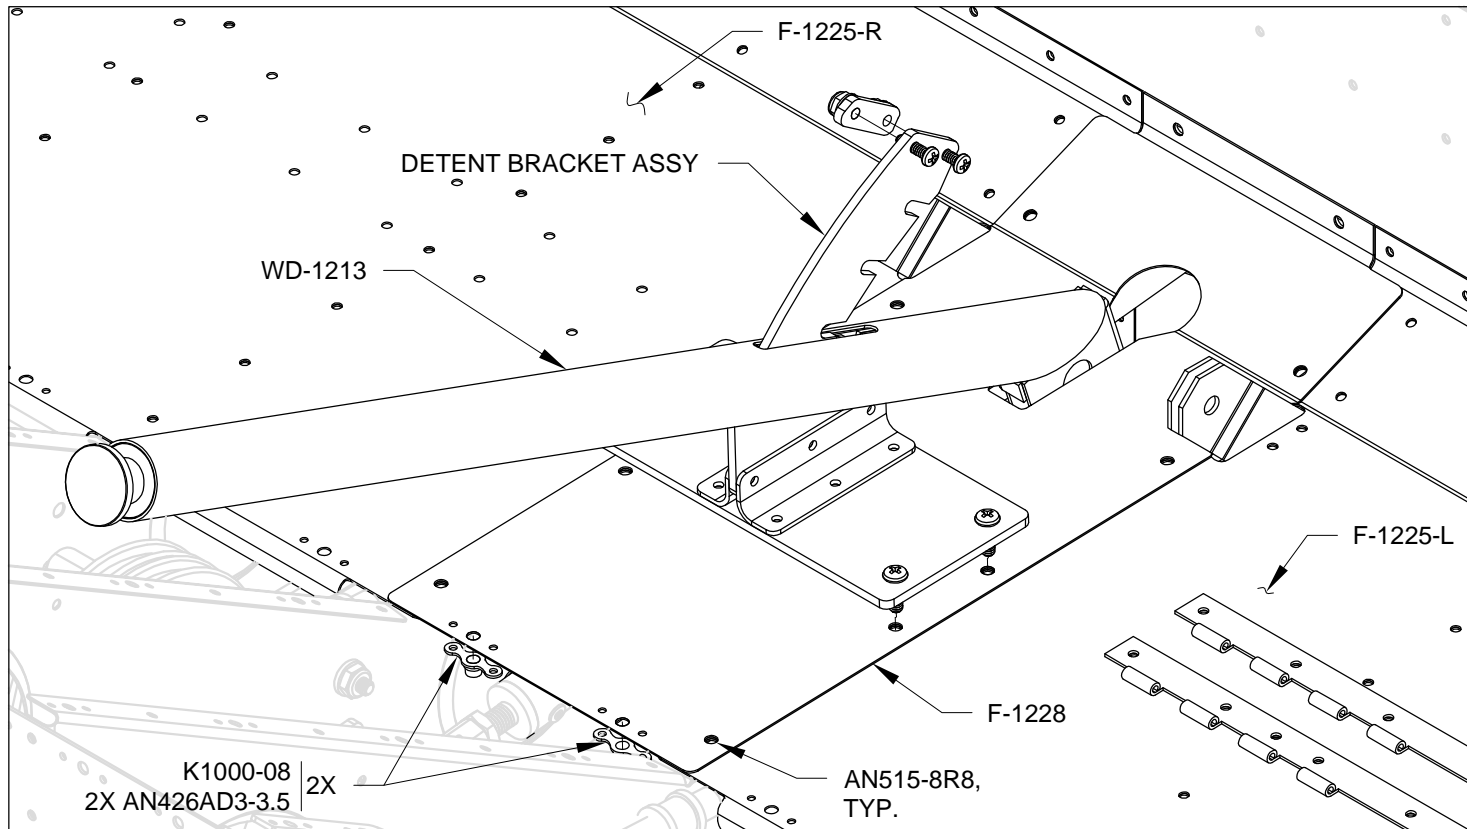

FIGURE 1: SEAT FLOOR COVER INSTALLATION (SOME PARTS NOT SHOWN FOR CLARITY)
Step 1: Dimple the nutplate rivet holes in the F-1228 Seat Floor Cover and the nutplates as shown in Figure 1. Rivet the nutplates to the seat floor cover as shown in Figure 1.
Step 2: Remove the Detent Bracket Assembly and slip the F-1228 Seat Floor Cover over the WD-1213 Flap Handle as shown in Figure 1. Attach the seat floor cover to the F-1225-L & -R Seat Floors, then screw the Detent Bracket Assembly to the seat floor cover using the hardware called out in Figure 1.